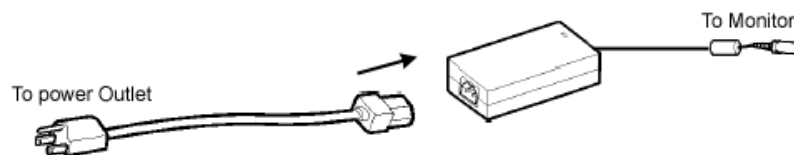

FIG. 20 Connection of power cord to power cable
7. Connect the Power Adapter to the female connector on the Power Cord and then connect the Power Cord to an electrical outlet (FIG. 20).